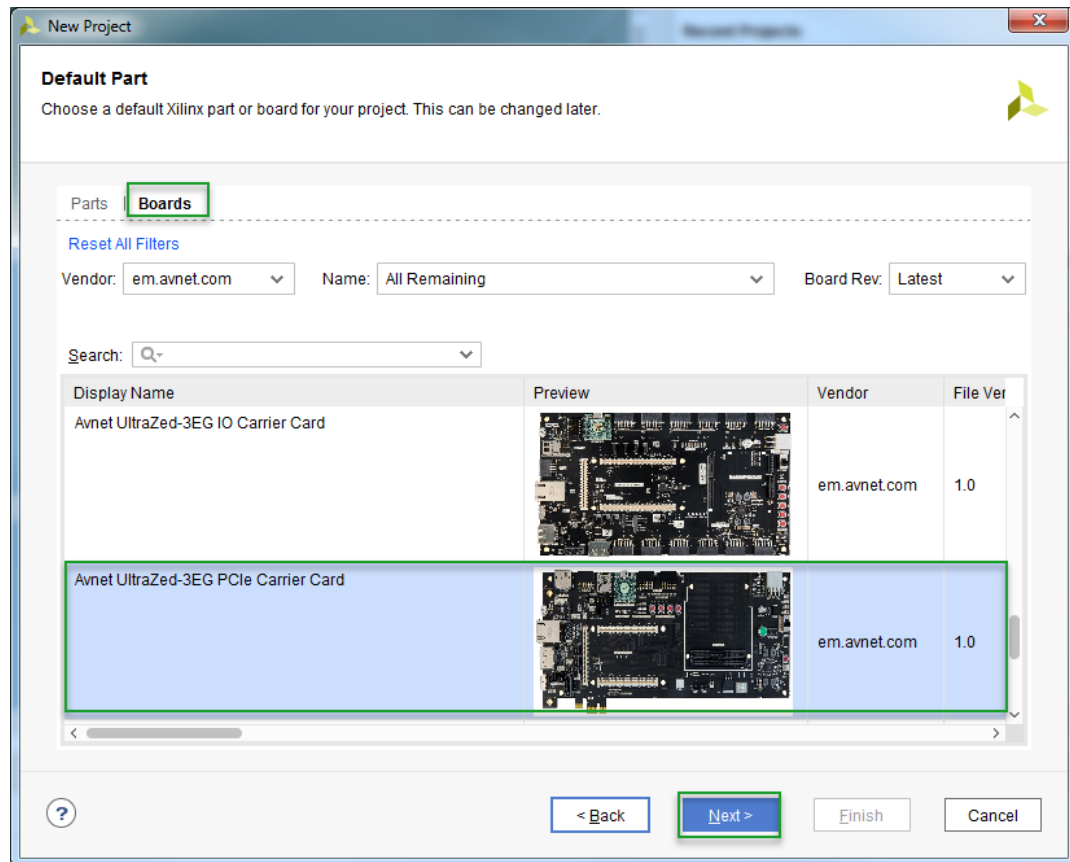

Figure 3 -- Board Definition File Selection
5. After entering Project name and Project location select **Next** until you reach the Default part selection page. When here select the boards tab and scroll down and select **Avnet UltraZed-3EG PCIe Carrier Card**. Select Next. Please see Figure 3.